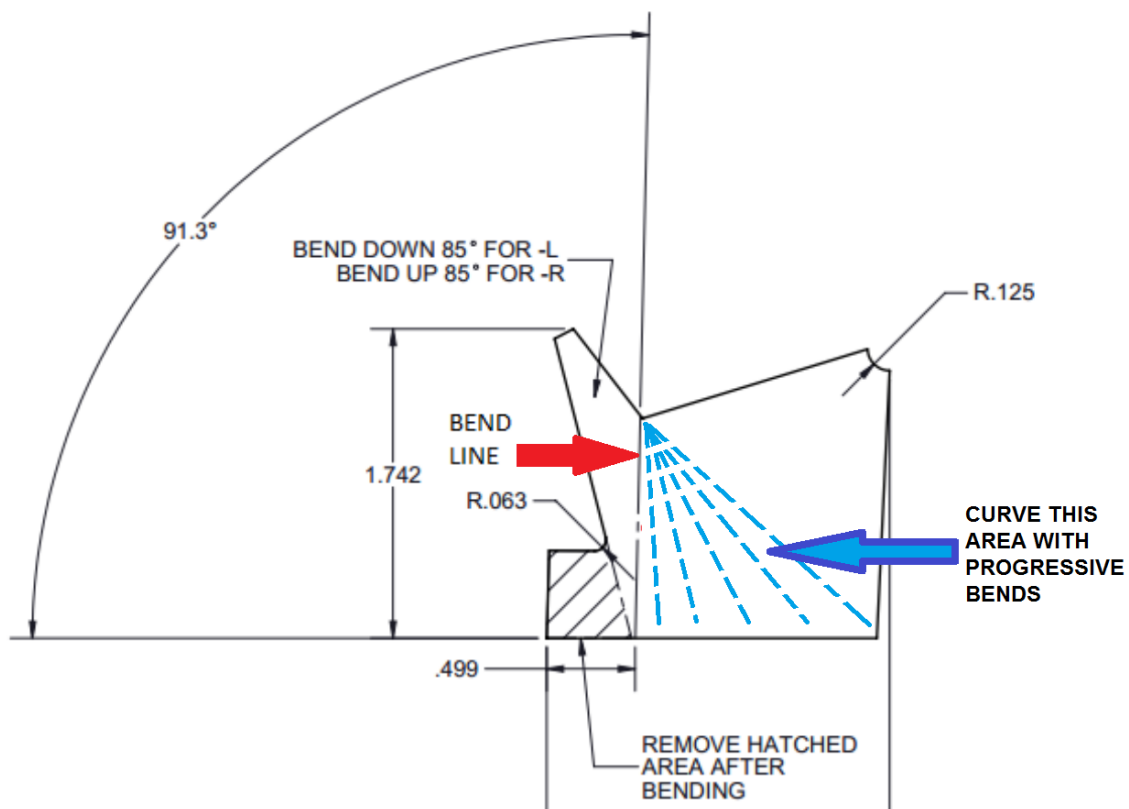
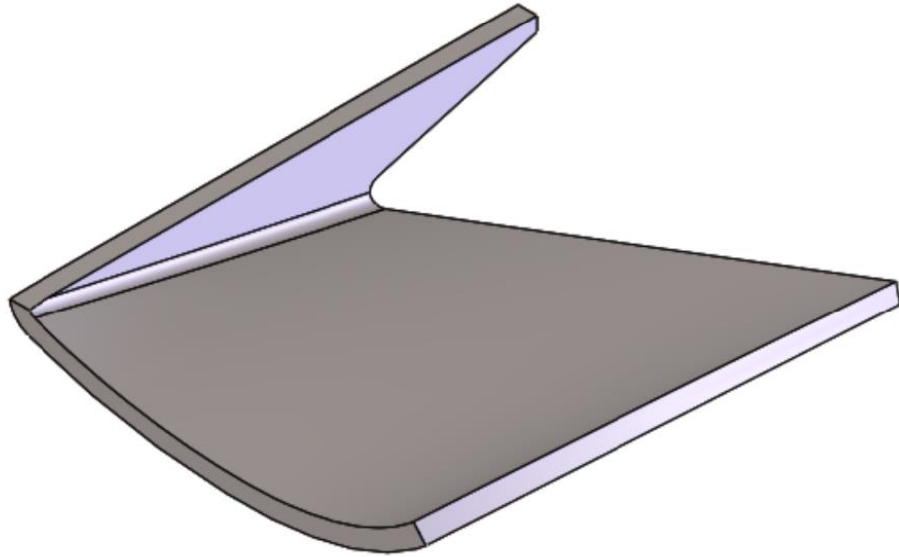

FIGURE 1: Forming the gussets
FIGURE 2: Curving the gusset face to match the streamlined tube
Step 1: Clamp WD-657Z Gusset in a vise along the bend line. See Figure 1.
Step 3: Remove the hatched area shown in Figure 1.
Step 4: Using progressive bends along the dashed lines shown in Figure 1 curve the part to match the shape shown in Figure 2 (note a right hand part is shown in Figure 2).